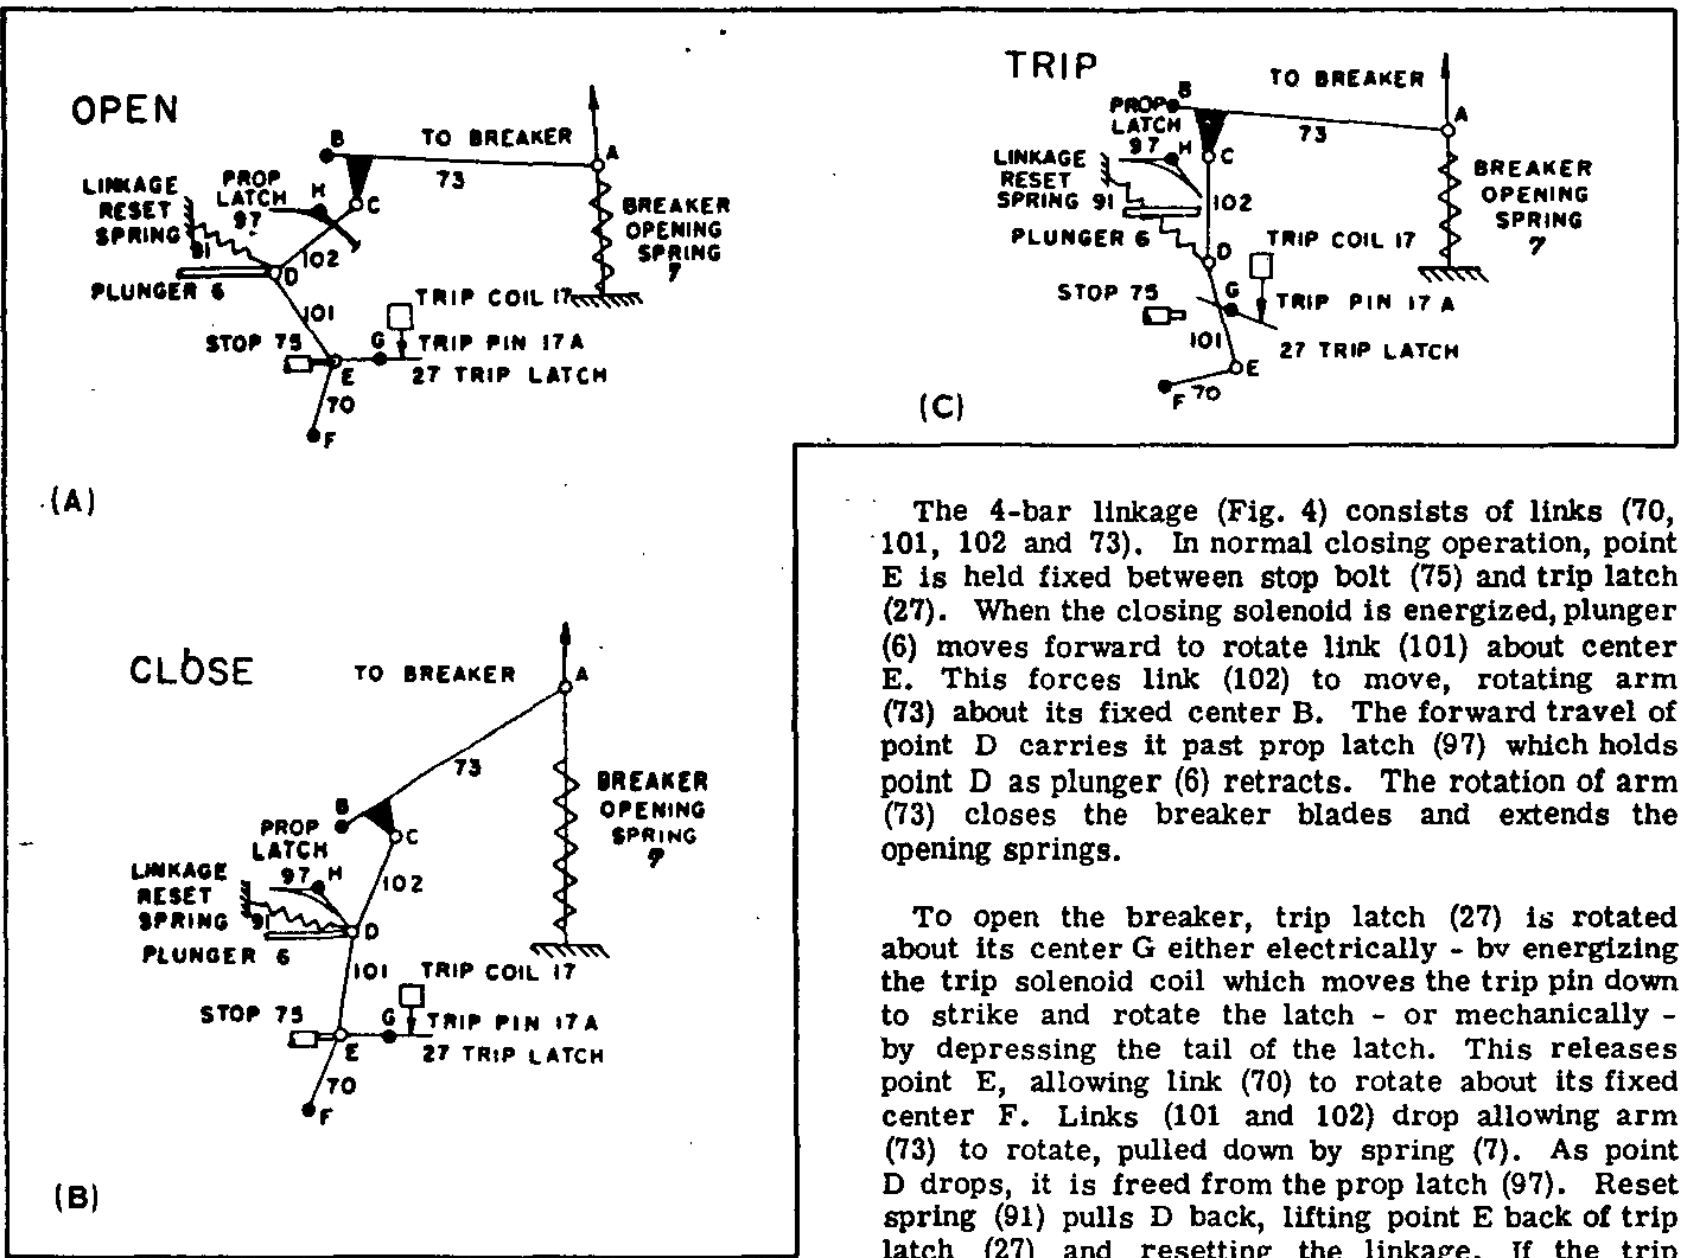

Fig. 4 - Four-bar linkage.
A large dc solenoid is used to drive two links of the four-bar linkage to an in-line position, allowing a prop latch to drop behind a toggle roll in the linkage system to hold the breaker closed. (Fig. 4.)
The 4-bar linkage (Fig. 4) consists of links (70, 101, 102 and 73). In normal closing operation, point E is held fixed between stop bolt (75) and trip latch (27). When the closing solenoid is energized, plunger (6) moves forward to rotate link (101) about center E. This forces link (102) to move, rotating arm (73) about its fixed center B. The forward travel of point D carries it past prop latch (97) which holds point D as plunger (6) retracts. The rotation of arm (73) closes the breaker blades and extends the opening springs.